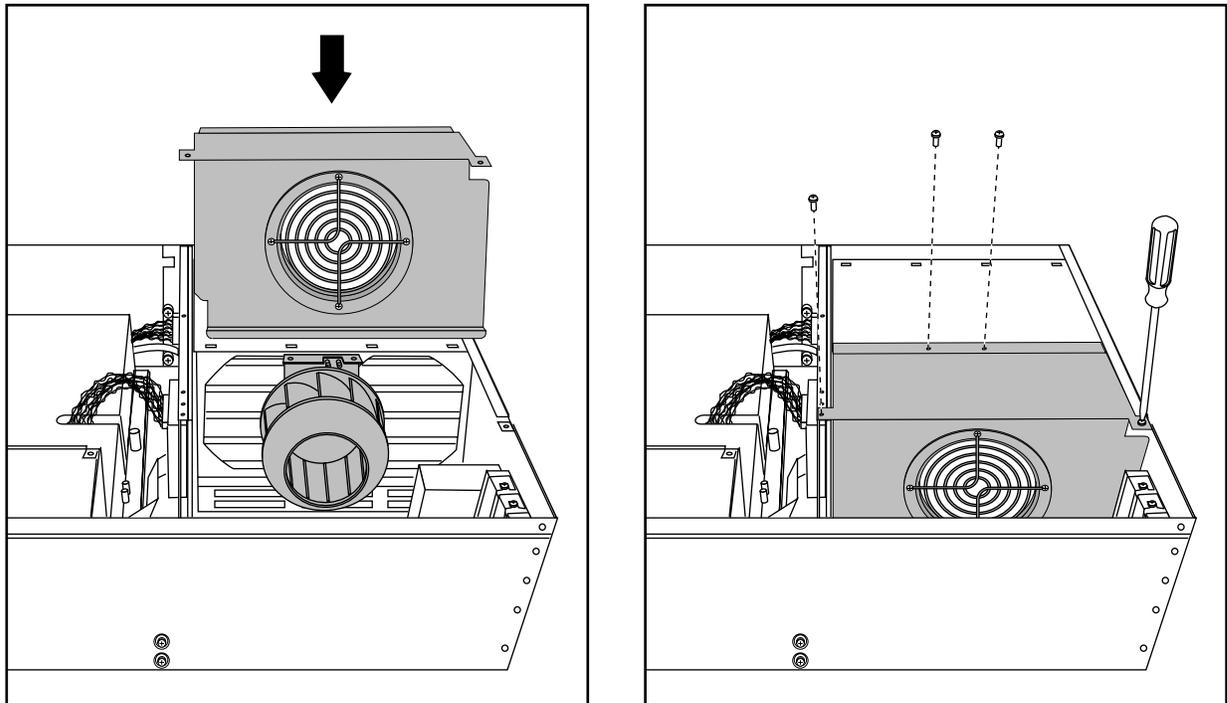

Figure 5-28 Replacing the Blower Cover
3. Replace the blower cover, as shown in Figure 5-28.